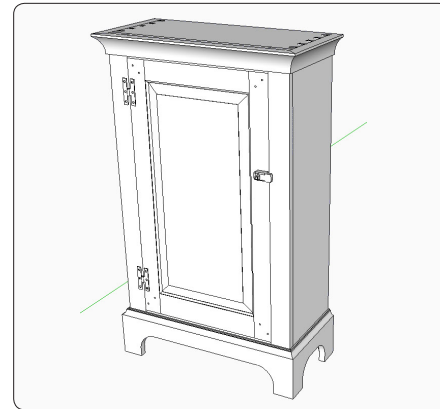

Figure 3. Colonial cupboard.
- A small colonial cupboard, an otherwise straightforward piece, has a mitered thumbnail molding on its door frame (Figure 3).